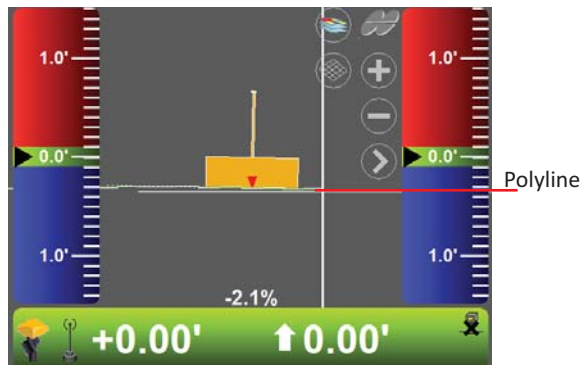

Figure 26: Polyline
1. To select a polyline for steering, press and hold on the desired polyline on the main screen; a pop-up menu appears. (Figure 26).